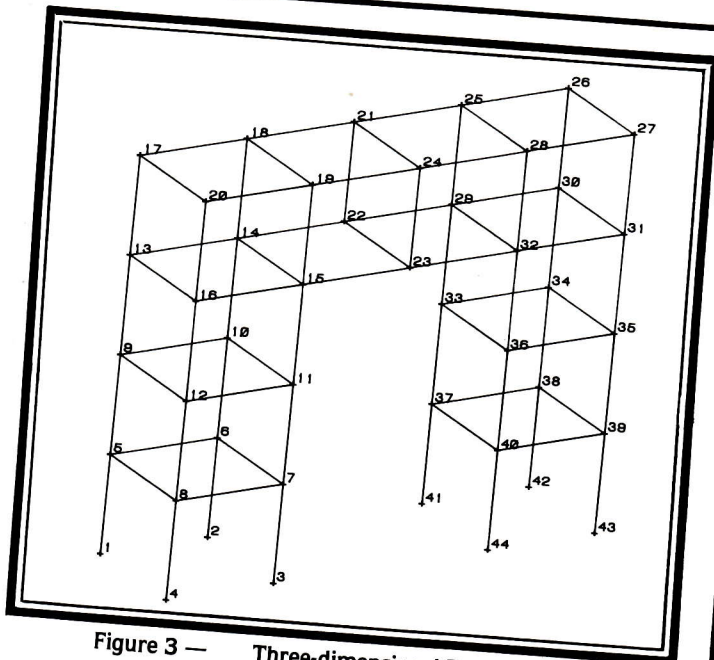

Figure 3 — Three-dimensional Frame Sample
B) The 3-D Beam Member: used in the analysis of frame structures which have general 3-d deformation patterns. A simplified notation for defining the member orientation is employed. A typical frame structure composed of 3-D beams is shown in Figure 3.